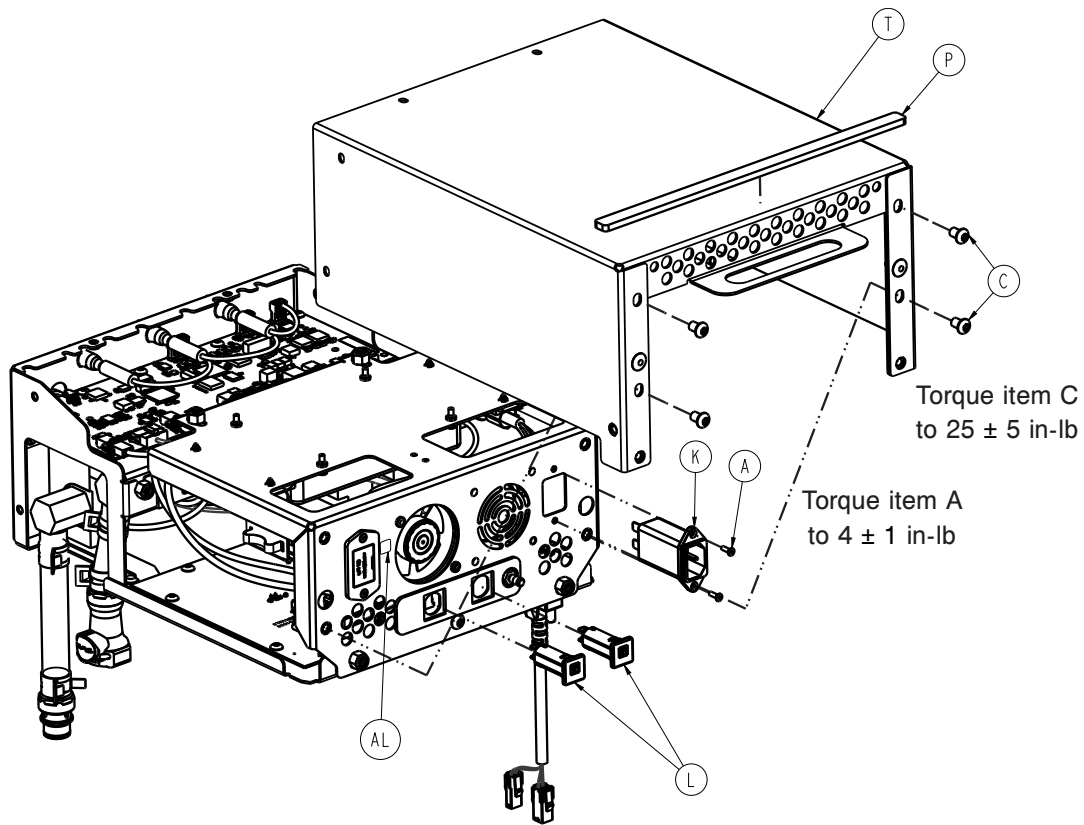

Figure 28 – Back of the control assembly
7. Using a T27 Torx driver, remove the four screws (C) from the back cover of the control assembly. Pull the cover to the back of the product. Set the cover aside (Figure 28). Save the screws.